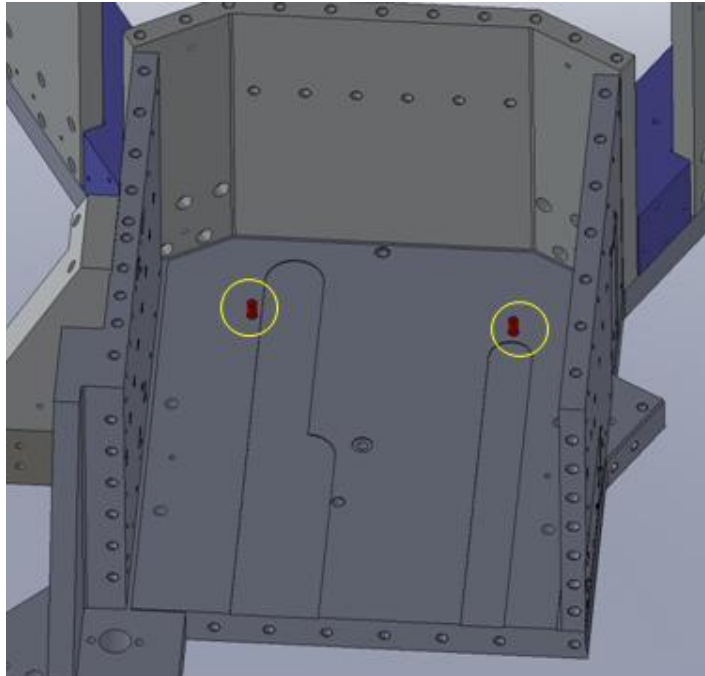
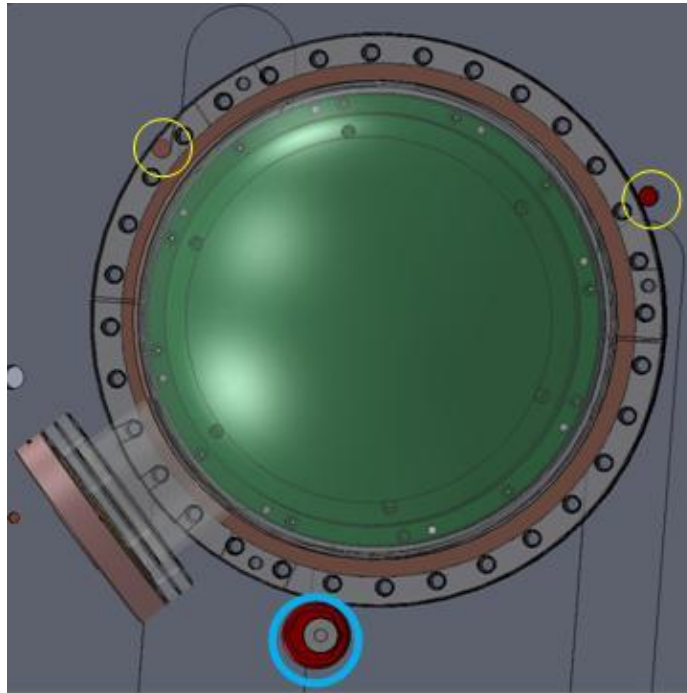

Figure 81: Locations of the (2) dowel pins in D0902279 Stage 1 Base Plate used to locate D0900648 Trillium Pod Assembly (there are no cut-outs)
Figure 82 Pins in the base plate circled in yellow & eccentric clamp circled in cyan
- Push the fully assembled Trillium pod against the dowel pins installed on D0902279 Stage 1 Base Plate, circled in yellow on Figure 81 & Figure 82. The left pin should slide into the slot of D0900648 Trillium Pod Assembly.
(1) Trillium Pod Locating Eccentric - D0901819
- Attach D0901819 the Trillium Pod Locating Eccentric loosely with the shoulder screw onto D0902279 Stage 1 Base Plate (see the blue circle on Figure 82). Make sure D0900648 Trillium Pod Assembly is fully pushed against the pins (see yellow circles on Figure 82) by turning D0901819 the Trillium Pod Locating Eccentric with the 1" open-end wrench.